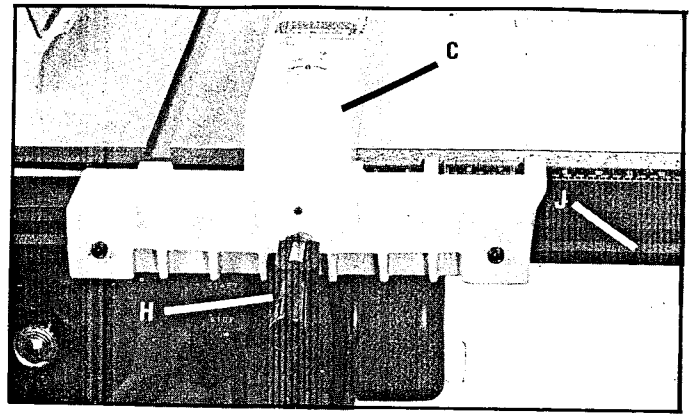

Fig. 36
2. Place fence body (C) Fig. 36, onto the guide rail, making sure clamp bracket is inserted into slot (J) on rail. Then turn handle (H) to the right, which will prevent the fence body from sliding out of the guide rail.